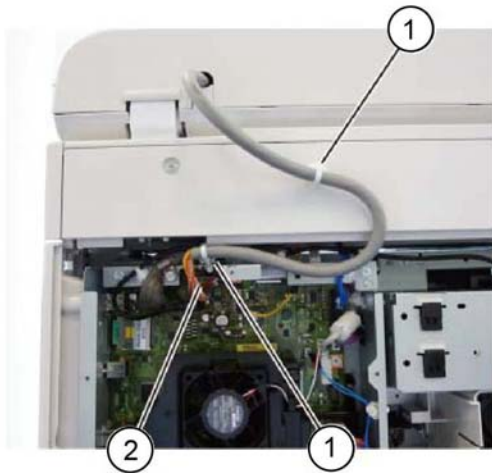

Figure 1 Connector
3. Disconnect the cable clamps (1), then the connector (2), Figure 1.